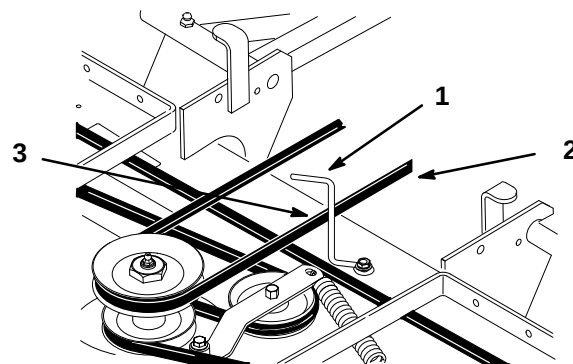

Figure 54
11. Rotate the belt guide, on rear of the mower, so it is 1/8"–1/4" (3–7 mm) away from the vertical side of the PTO belt (Fig. 54).